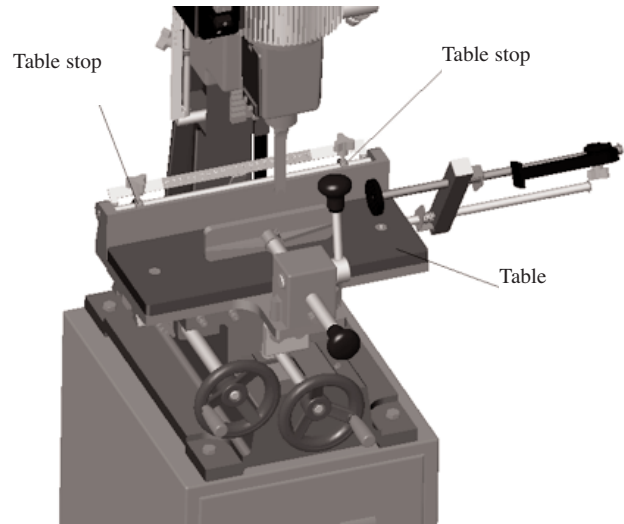

Figure 5
3. Adjust the table stops, Figure 5, according to the length of cut required, then tighten the thumb screws.